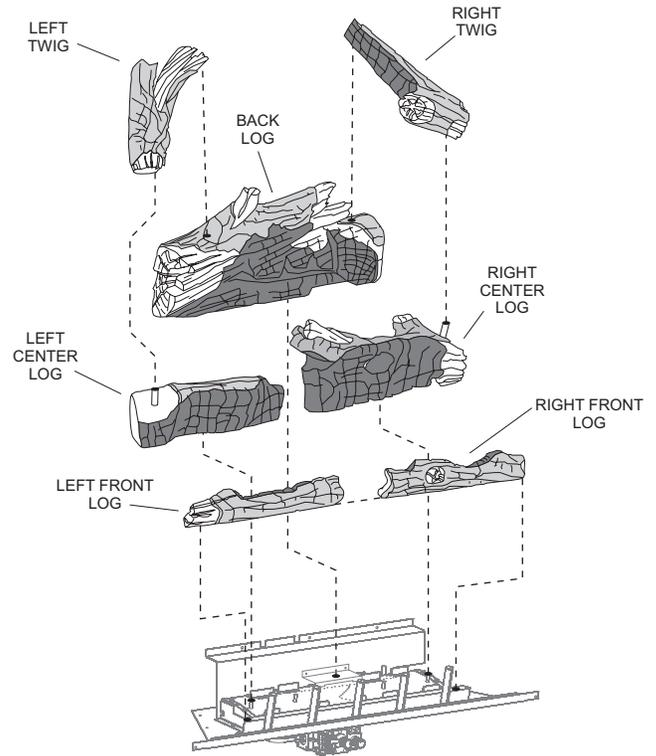

Figure 18
The positioning of logs is critical to safe and clean operation of this fireplace. Sooting and other problems may result if the logs are not properly and firmly positioned in the fireplace. Refer to **Figure 18** and **Figure 19** and corresponding WARNING when completing following log placement steps.
7. Begin with the front left and front right logs. Place these so that they are centered left to right on the front log support ledge. The flat bottoms will rest on top of the front log support ledge, and they must be positioned all the way forward and touching the back of the grate tangs. Important: The front right log has a small knot as shown in Figure 18.